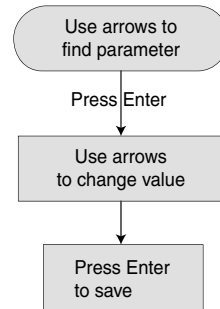

Figure 12 - Changing parameter value.
- B. Follow the keypress sequence shown in Figure 12: